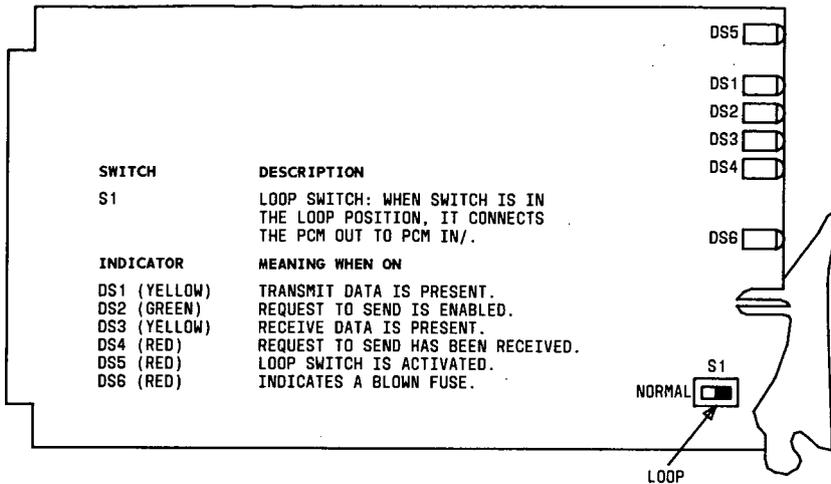

Figure 90. Asynchronous Data Channel Unit Switch Locations and Setting
- b. For No. 30044-002 (Figure 90), insert a 1004-Hz signal at the proper system level into the channel. Connect a dB meter (600-ohm bridged) to TP5 and TP6. Set switches on S8 and S9 to obtain a meter reading of +.84.